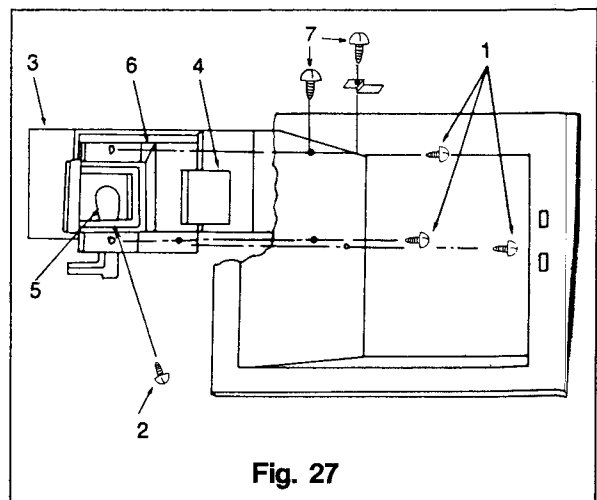

Fig. 27
10. Ventilation Duct Assembly Removal (Refer to Fig. 27)